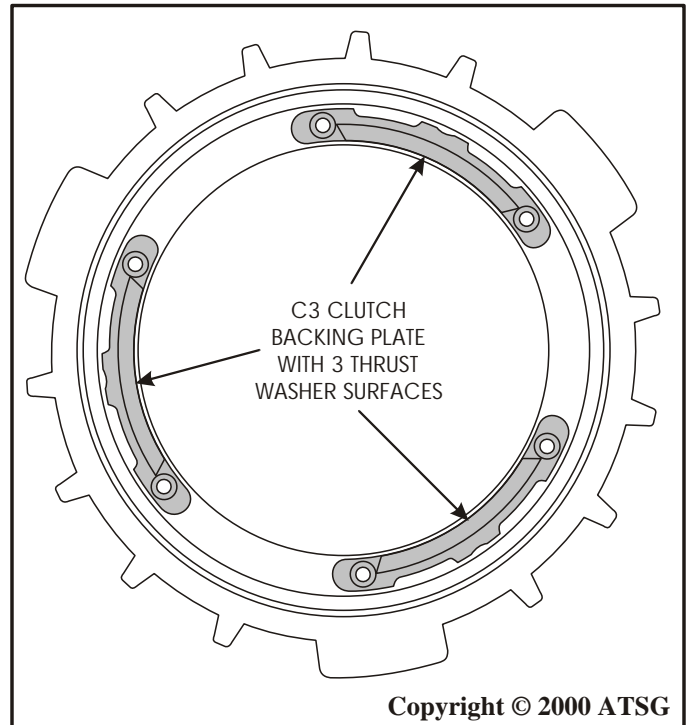

Figure 77
5. Inspect the three washer surfaces that are pop riveted onto the C3 clutch backing plate, as shown in Figure 77.